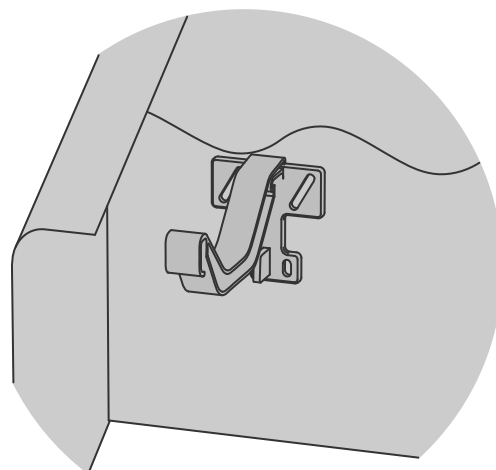

Fig. 1
1. Fix the first gutter bracket (DK501 or DK502) as high as possible at one end of the fascia. Fig. 1.